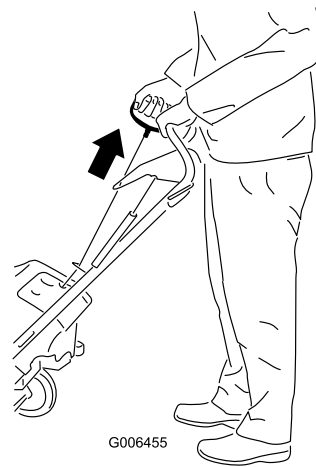
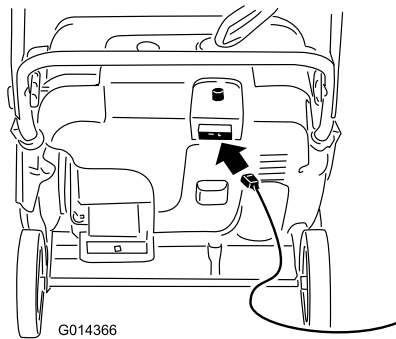

Figure 15
Figure 14
4. Connect an extension cord to a power source and the machine, and push the electric-start button (electric-start models only) as shown in Figure 14, or pull the recoil-start handle (Figure 15).